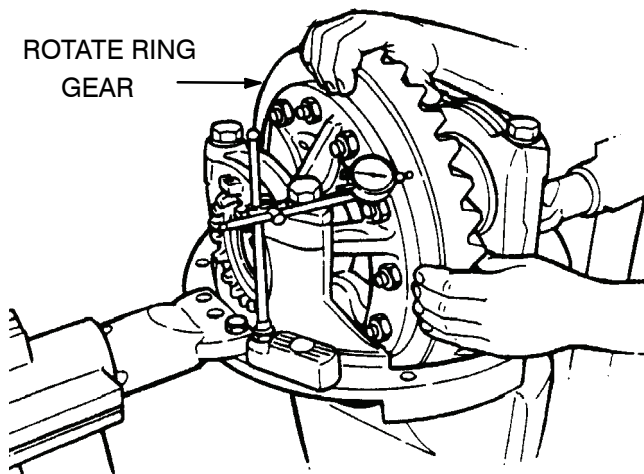

Figure 73.
- (1) Using dial indicator, check drive gear for excessive run–out. If run–out exceeds .008", remove differential and gear assembly from carrier and check for cause and correct. Refer to Figure 73.